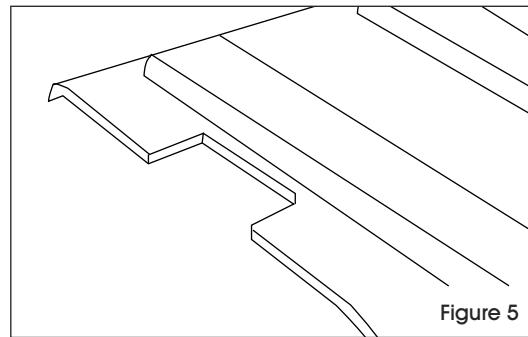

Figure 5
9. The shape of the lid should allow it to fit inside all 4 brackets, but it might be necessary to cut small notches out of the lid for it to fit properly. (See Figure 5)